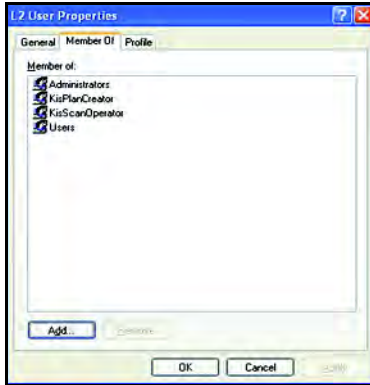

Figure 119: Member Tab
8. To change group membership, click on the tab Member Of (see *Figure 119* below). Click the Add button to add the member to a group.